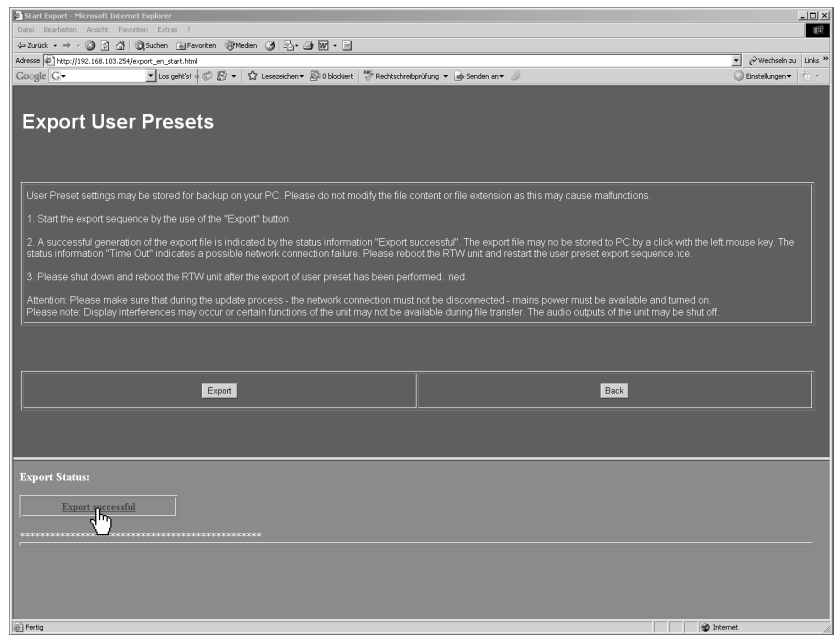

Fig. 8-15: The export file has been generated and can be saved
5. When the Export Status turns to the blue labelled "Export successful" (see Fig. 8-15) the export file can be saved. Please click **Export successful**.